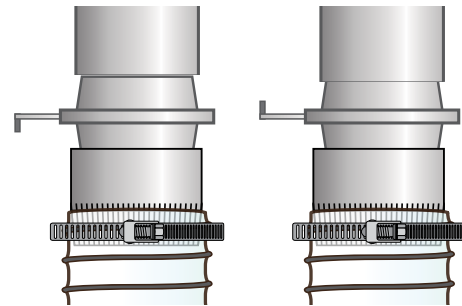

FIG. 29b
- Blast Gates can be installed facing either direction so that the handle on the plate is in the most convenient position [FIG 29b].